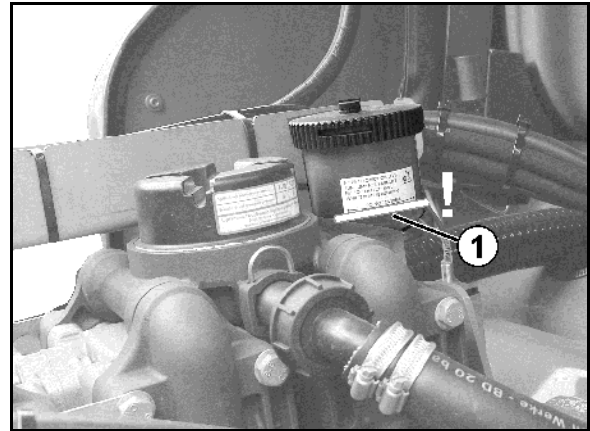

Fig. 151
1. Unscrew the magnetic cap (Fig. 151/1).
2. Remove the solenoid (Fig. 151/2).
3. Unscrew the valve rod (Fig. 151/3) with valve seats and clean with compressed air or hydraulic fluid.